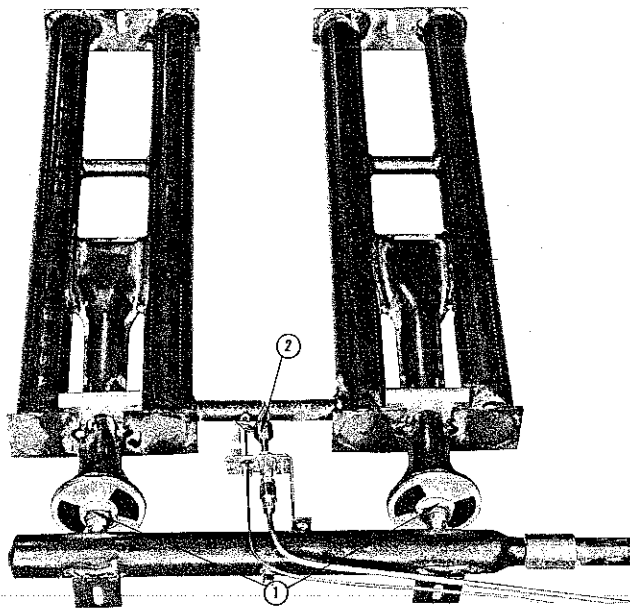
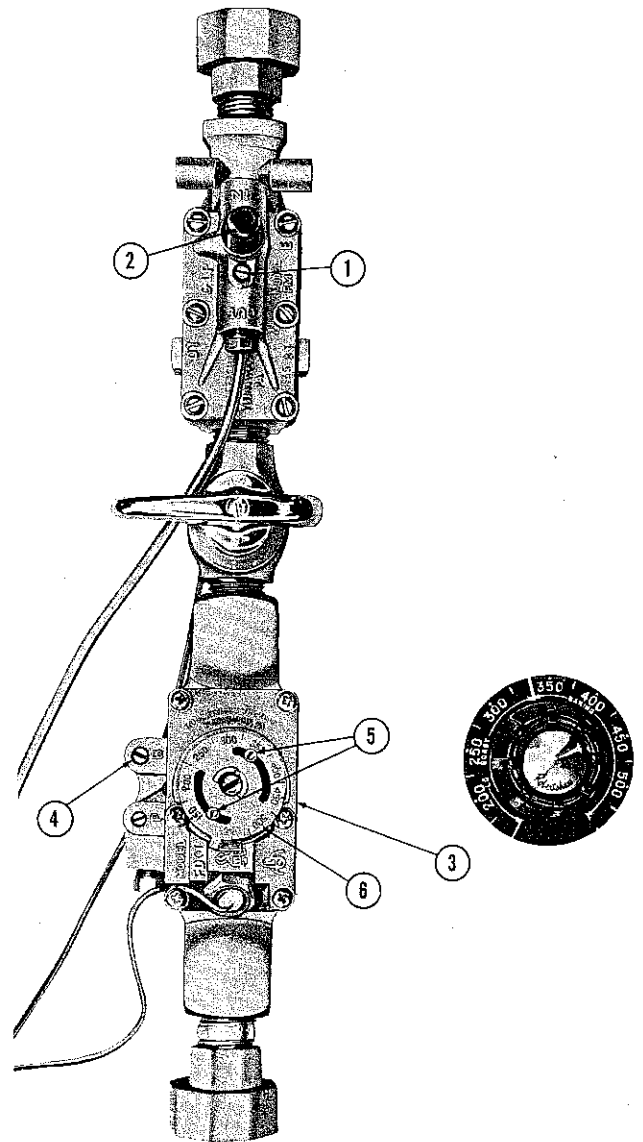

FIG. 12
FIG. 13
To remove orifices from manifold (Figure 12, No. 1):
2. Turn the by-pass adjusting screw (Figure 13, No. 4) counterclockwise three full turns.
To insure proper operation of this oven, make sure the pilot burner is adjusted as in (Figure 12, No. 2). The flame must engulf the safety valve tip. This adjustment may be made by turning the safety pilot adjusting screw (Figure 13, No. 1) counterclockwise until size of flame is as desired. To make this adjustment insert screwdriver thru the opening in the control compartment cover just below the red button of the safety valve.
- (b) With a screwdriver loosen the two calibration screws (Figure 13, No. 5) until calibration plate (Figure 13, No. 6) moves independently of the control.
To light pilot: make sure main gas control valve is at OFF mark. Open burner compartment door, press in and hold plunger of pilot control (red button), (Figure 13, No. 2). Apply lighted match or taper to the pilot burner. After burner ignites, continue to press plunger in for about 60 seconds before releasing it. If pilot burner continues to burn, set thermostat dial at 500° F (260° C) then turn main gas valve control on and reset thermostat dial to the desired temperature. It is not necessary to relight the automatic pilot daily. At the end of each day's operation, simply turn main gas control valve off.